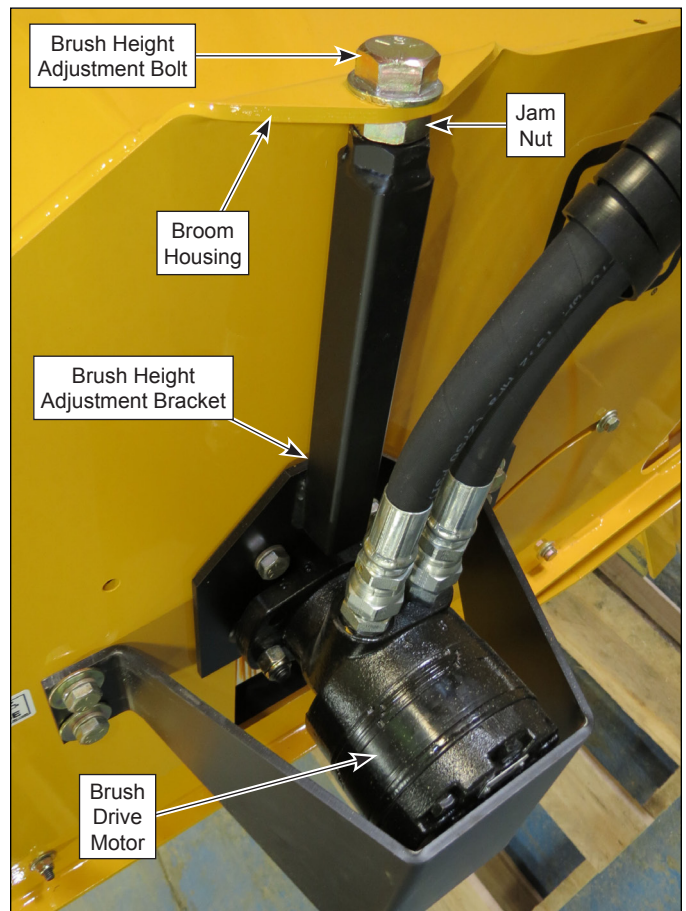

Figure 5
6. Loosen the adjustment jam nut(s) away from the broom housing. See Figure 5.